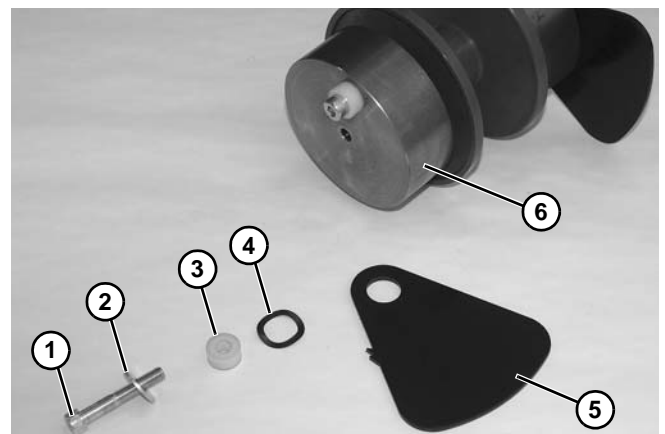

Figure 155
7. Remove bolt (**Figure 155, item 1**), washer (**Figure 155, item 2**), spacer (**Figure 155, item 3**), wave washer (**Figure 155, item 4**), and plate (**Figure 155, item 5**) from end of idler assembly (**Figure 155, item 6**).